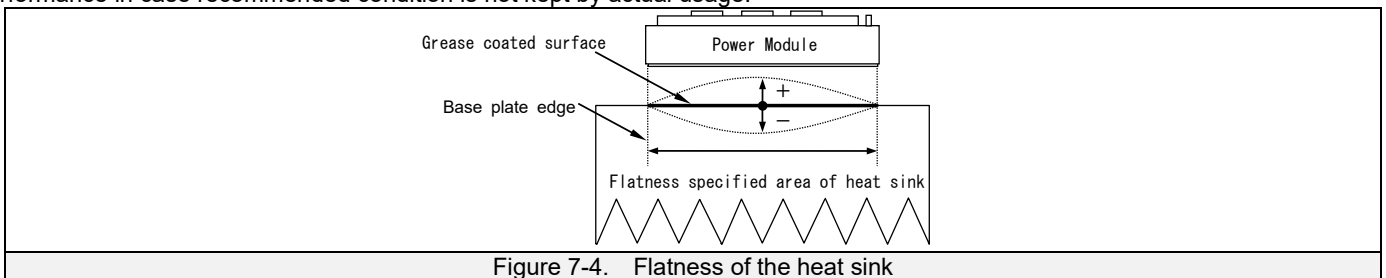

Figure 7-4. Flatness of the heat sink
- The flatness of the heat sink should be $-50\mu\text{m} \sim +50\mu\text{m}$ for a length of 100 mm on the module mounting surface (see Figure 7-4). Also, the surface roughness should be within $10\mu\text{m}$ for a length of 100 mm. Sufficient flatness must be provided on the surface of the heat sink. Excessive minus (concave) warp will increase the contact thermal resistance $R_{th(c-s)}$ and influence the heat dissipation of the module. Excessive plus (convex) warpage may cause stress to be applied to the inside of the module during installation, which may cause damage to the module.